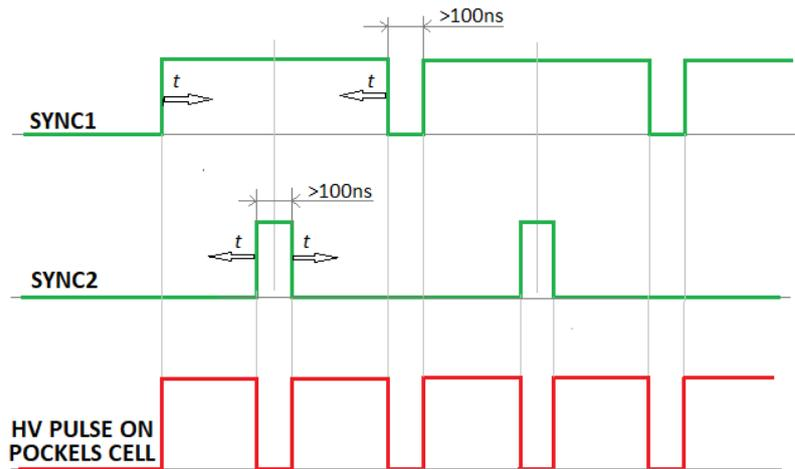

Figure 7. Control 2DPB2 drivers with frequency doubling
1. Operation with frequency doubling. Output pulses to Pockels cell appear double frequency as any of trigger input. **Figure 7** presents the principle. SYNC1 and SYNC2 are triggering inputs. Corresponding outputs OUT1 and OUT2 of the driver repeats the time scale of SYNC inputs and presents amplitude in kV. Resulting HV pulse on Pockels cell appears as difference of these two outputs. Pulse duration to Pockels cell is tuned by shifting SYNC input's edges toward directions marked by arrows t simultaneously. The width of pulse SYNC1 must to be about 0.5 period or longer. The pulse duration can be tuned down to 0 unlike as in regular Pockels cell drivers.